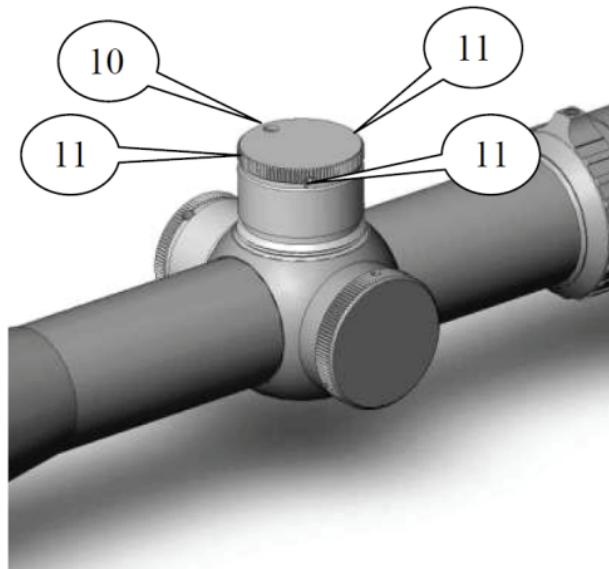

Figure 4
- 11) The zeroed position of the knobs must be fixed (this procedure is called “to set a zero”). In order to do so, loosen the three setscrews (11, Fig. 4) with the hexagon key on each knob. Turn the knob without clicks until the zero marking coincides with the marking on the riflescope body. Tighten the setscrews with the same key;
- 12) The setscrew (10, Fig.4) stops rotation of the knob on the “-2” or “-4” clicks position counting from “0” position of the knob. If your adjustment mechanism is not mechanically locked at the “minus” position, rotate the setscrew (10) clockwise by 4-5 full cycles. If the screw rotates too easily, lock it with the locking substance or paint.